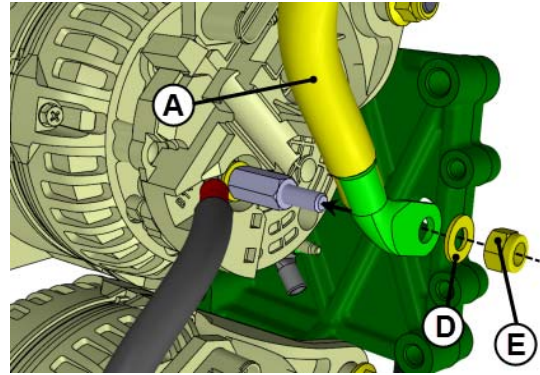

FIGURE 9
8. Reinstall power cable **A**. To do so, connect power cable **A** to the upper alternator **B1+** stud terminal. Refer to **FIGURE 9**.